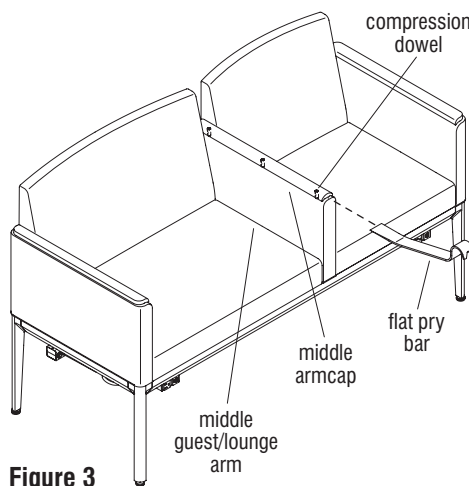

Figure 3
1. Using a clean flat pry bar, position it first as illustrated near the front of the middle armcap. Take note of where each compression dowel is, to pry up near them in step 2 (Figure 3 & Detail A).
2. Carefully insert the flat end of the prybar between the fabric of the arm and the underside of the middle arm cap, then gently wiggle and pry up on the armcap slightly. Next, move back a little toward the second compression dowel, prying up a little, and then the third compression dowel, working the armcap up a little at a time. Keep working carefully from front to back, or back to front until the armcap dowels fully release from the arm (Figure 3 & Details A & B).